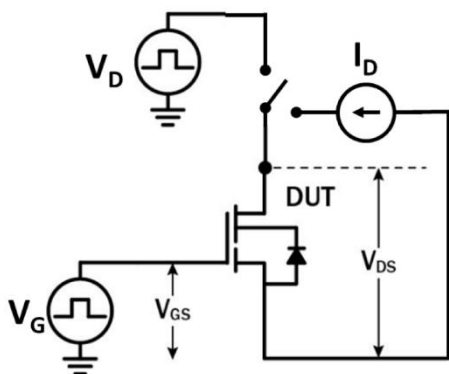

Figure 19. Dynamic $R_{DS(on)eff}$ Test Circuit
- g. Dynamic on-resistance; see Figures 19 and 20 for test circuit and conditions